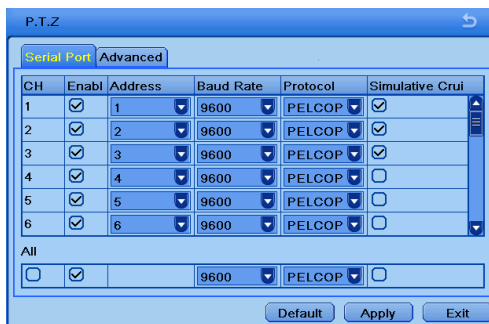

Fig 4-34 P.T.Z Configuration-Serial Port
- ① Go to Main Menu→Setup → P.T.Z →Serial Port interface. Refer to Fig 4-34.